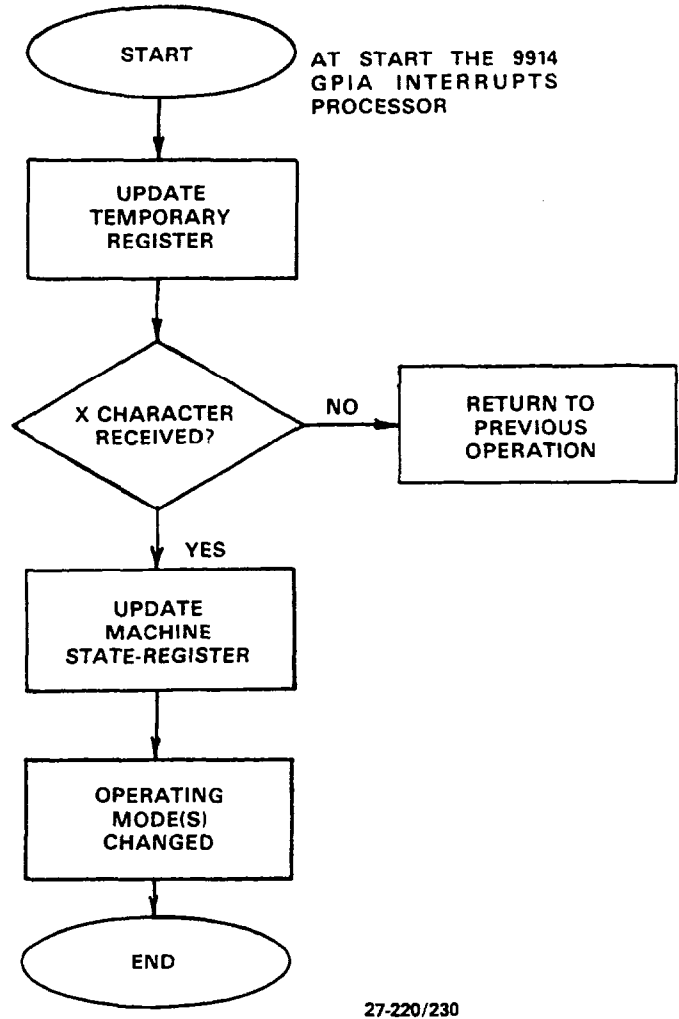

Figure 5-10. Device-Dependent Command Flow Chart
Figure 5-10 shows the device-dependent command flow chart for the Model 220/230. At the start, the command causes the 9914 GPIA to interrupt the processor. If the execute (X) character is not received, the instrument returns to the previous operation without executing any commands. Once the X character is received, the machine state register is updated to agree with the temporary register, and appropriate operating modes are changed.